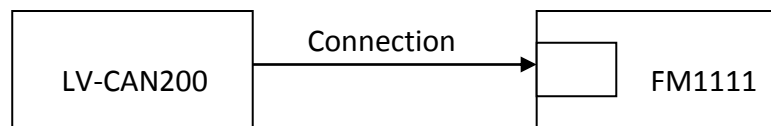
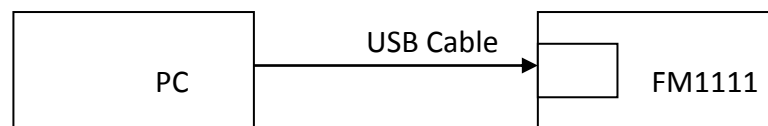

Figure 56 Connect adapter LV-CAN100 to FM1111
Figure 51 Connect FM1111 to PC and configure
**SCAN function** – is in use when FM1111 is connected to CAN adapter (Figure 56), then wait 10s (Note, that car engine must be started), disconnect adapter from FM1111, and connect PC USB cable to FM1111 Device (Figure 51). It is very important not to disconnect FM1111 from power source during this operation, because if FM1111 is reconnected all received CAN bus data will be lost. FM1111 remembers received data from LV-CAN200 and at the end of the procedure when “SCAN” button is pressed, user will see all CAN data which is sent by adapter. Enable CAN data which needs send to server and save configuration pressing “Save” button.
2. Disconnect LV-CAN200 from FM1111, and connect PC USB cable to FM1111 Device (Figure 51). It is very important not to disconnect FM1111 from power source, because then all CAN data will be lost.